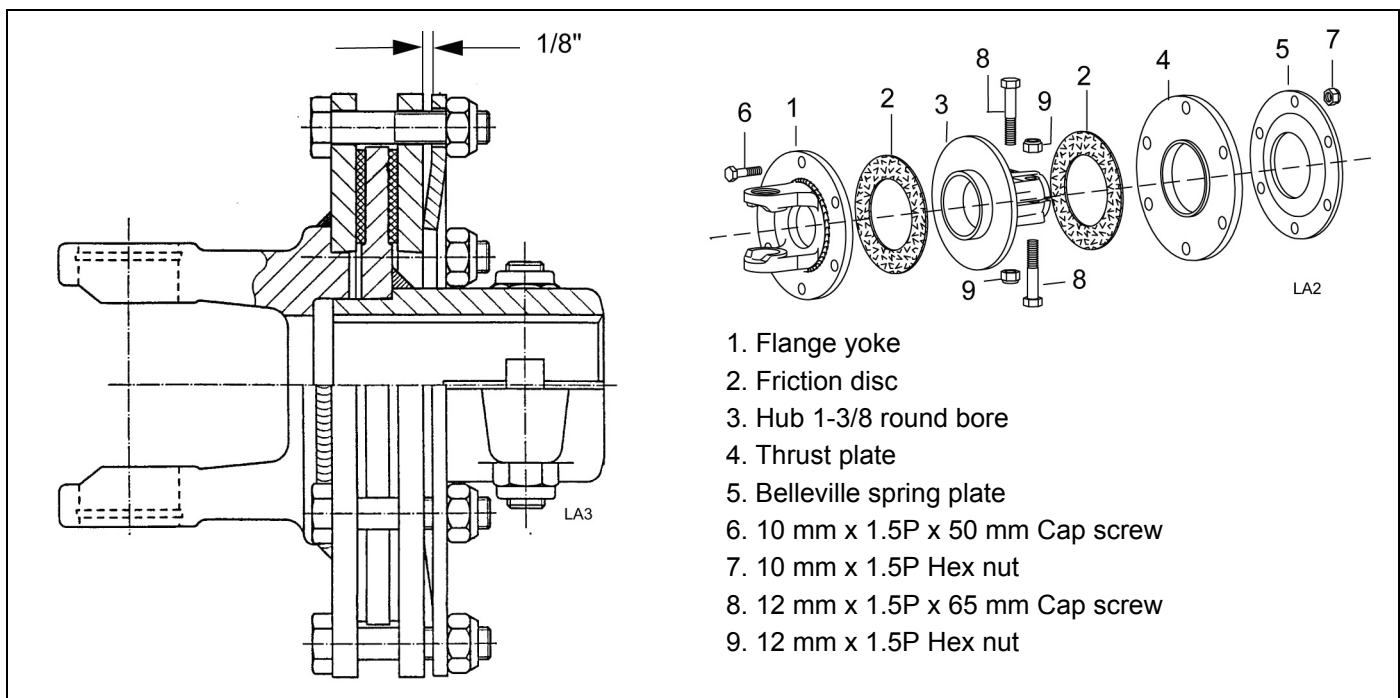

Figure 9. Slip Clutch Assembly
SLIP CLUTCH ADJUSTMENT (FIGURE 9)
3. Loosen six 10 mm cap screws (6) to remove all tension from Belleville spring plate (5).
4. Hold clutch hub (3) solid and turn shaft to make sure clutch slips.
5. If clutch does not slip freely, disassemble and clean the thrust plate faces (4), flange yoke (1), and clutch hub (3).
7. Tighten Belleville spring (5) until it is against the thrust plate (4) of the clutch, and then back off each of the six nuts by 2 full revolutions. The gap between Belleville spring and thrust plate should be 1/8" as shown in Figure 9.
8. If a clutch continues to slip when the spring is compressed to 1/8" gap, check friction discs (2) for excessive wear. Discs are 1/8" when new. Replace discs after 1/16" wear. Minimum disc thickness is 1/16".